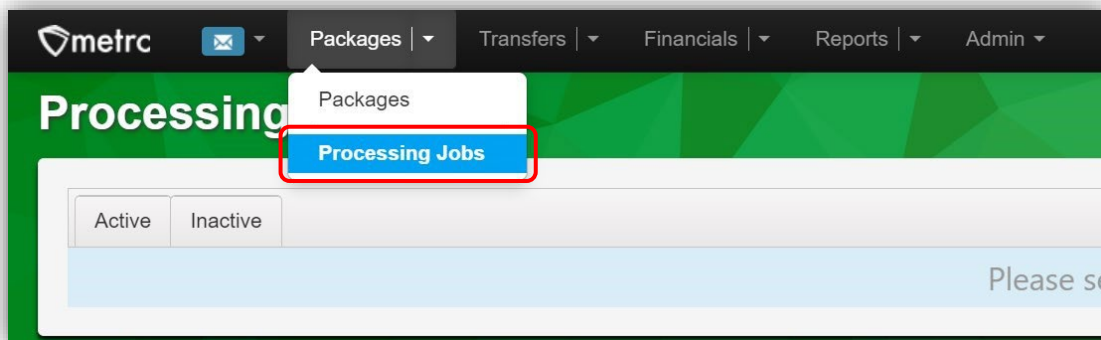

Figure 11: Processing Jobs grid in the Packages dropdown
- Go to the Processing Jobs option found under the Packages area drop-down in the Navigational Toolbar – **see Figure 11.**